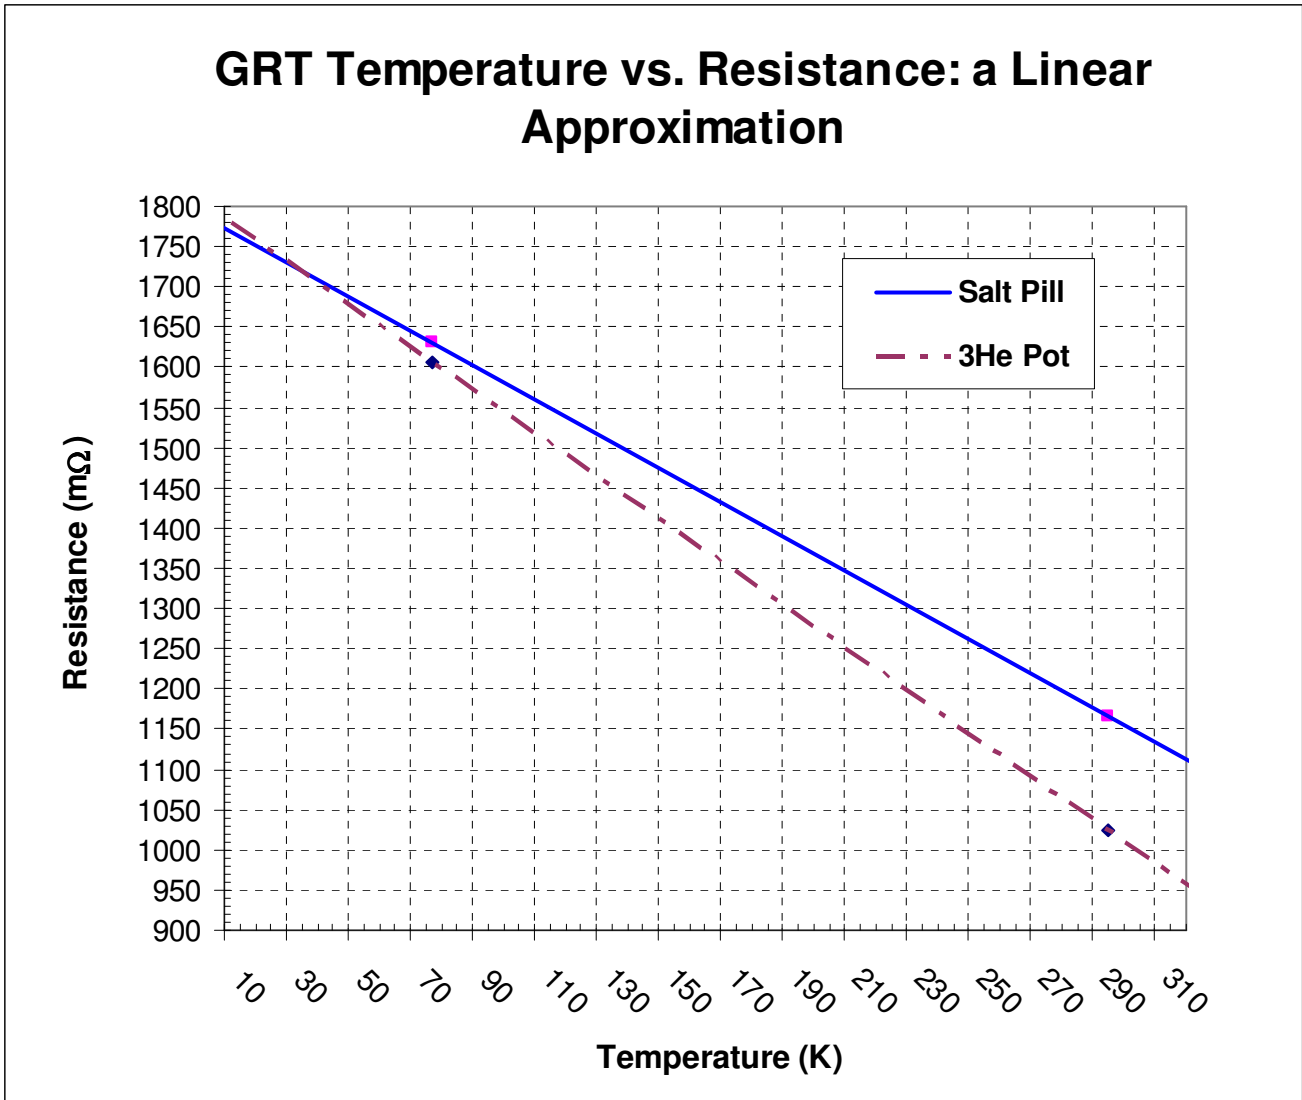

Figure 10: GRT Temperature vs. Resistance Plot
3. After selecting which GRT you want to use on the small blue box, locate at the Resistor Bridge Box (47) in the electronics rack (second box from the top of the electronics rack on the Fabry side of SPIFI in the enclosure). If the Resistance Bridge is not already on, turn it on.
6. Compare your recorded value with the graph below (Figure 10) to get the temperature, and record this temperature in the SPIFI notebook. Figure 10 is a very rough linear approximation for "high" temperatures (say, above 10K). We do not have good calibration measurements of these GRT's for temperatures below 4K. However, after cycling the ^3He fridge and the ADR, and when the system is cold enough for observing, the pot GRT should read something on the order of 120Ω (which means the pot is around 275mK), and the pill GRT should read something between 700Ω up to $5k\Omega$ (which means the pill and detectors are around 60mK). The wide range of $700\text{-}5000\Omega$ is because the resistance-temperature curve of the GRT for very low temperatures is very steep. Therefore a large increase in resistance only corresponds to a small decrease in temperature. Also, you should know that the pill GRT doesn't always appear to be stable, and can jump around a bit.